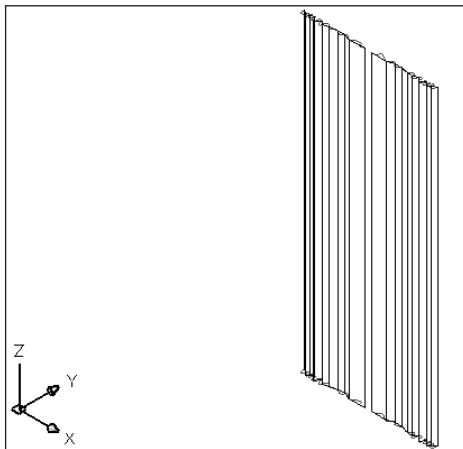

Figure 23-35: The completed drapes
8. Save your drawing. It should look like Figure 23-35.